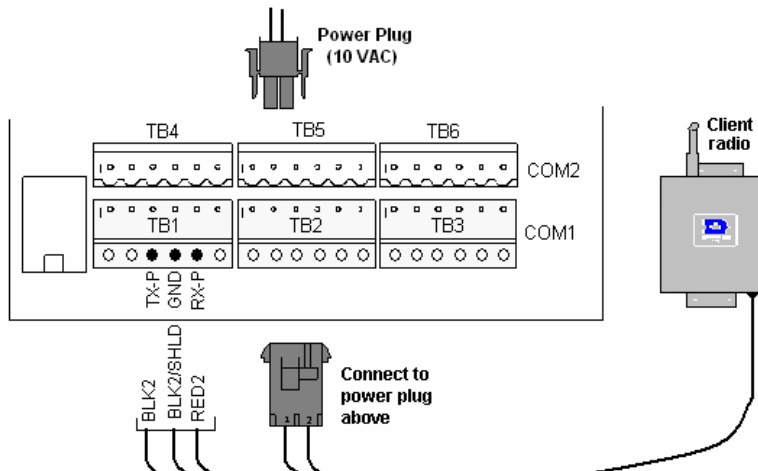
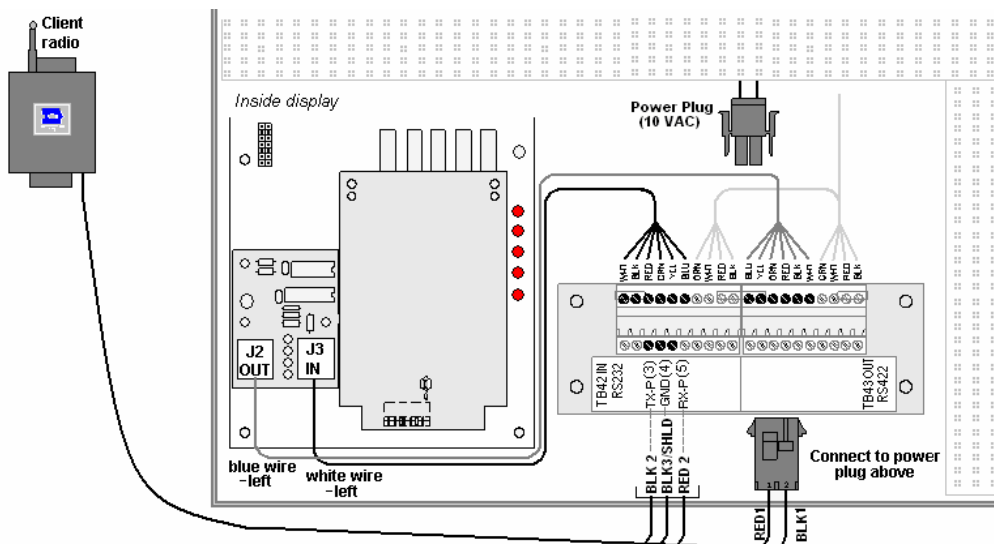

Figure 13: Connection for AF-3050, AF-3060, AF-3090 Displays
Figure 14: Connection for G-1000, AF-3010, X-1000 Displays
5. The cable coming into the display has a 2-pin connector and three wires that need to be terminated. Also, refer to **Figure 13** and **Figure 14** for the specific type of display.